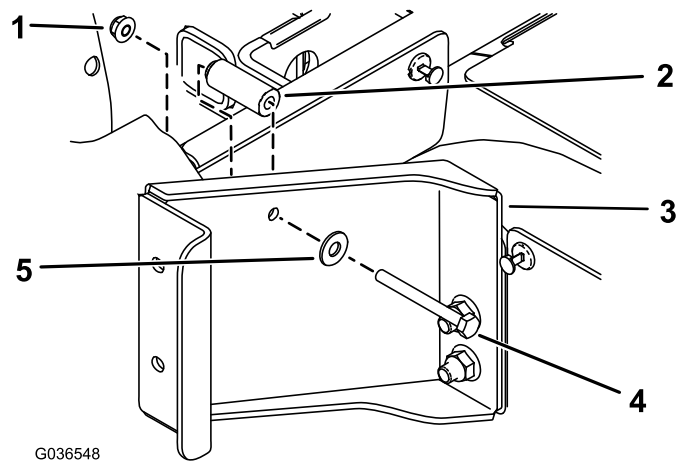

Figure 2
- C. Secure the bracket behind the rear seat base using 1 hex-head bolt ($\frac{1}{4}$ x 2- $\frac{1}{2}$ inches), 1 flat washer ($\frac{5}{16}$ inch), 1 spacer ($\frac{9}{32}$ x $\frac{5}{8}$ inch), and 1 flange nut ($\frac{1}{4}$ inch) as shown in Figure 2.